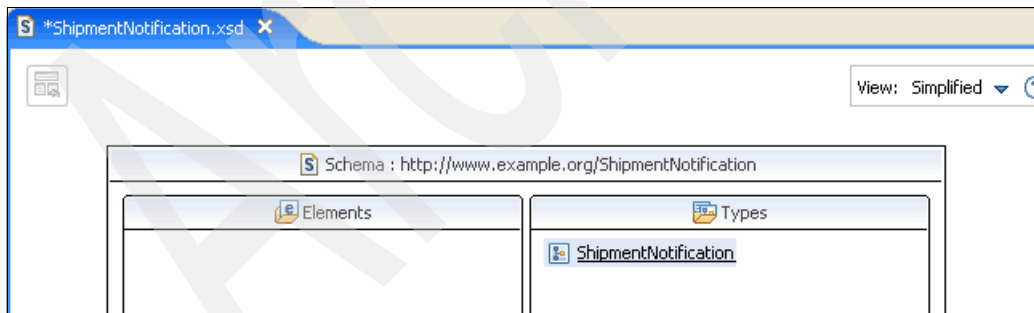

Figure 9-18 Shipment Notification type
5. Type ShipmentNotification as the name of the new complex type (Figure 9-18).